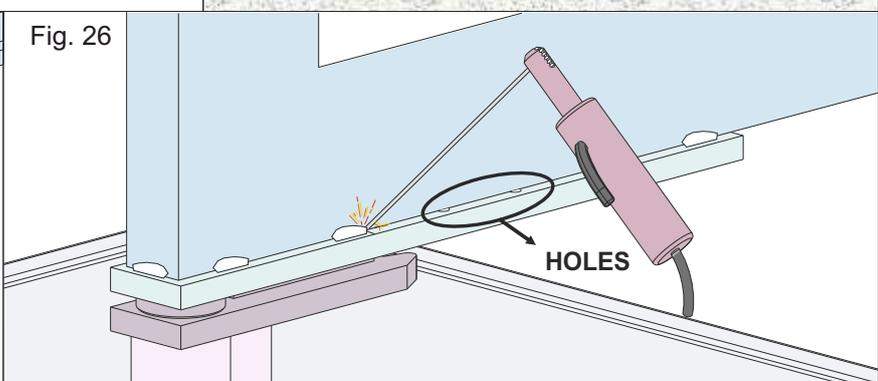

Fig. 26
4.2. Carefully weld the support rod to the leaf, making fixing sections of about 3 or 4 cm along the contact surface and avoiding welding near the threaded holes (Fig. 26)